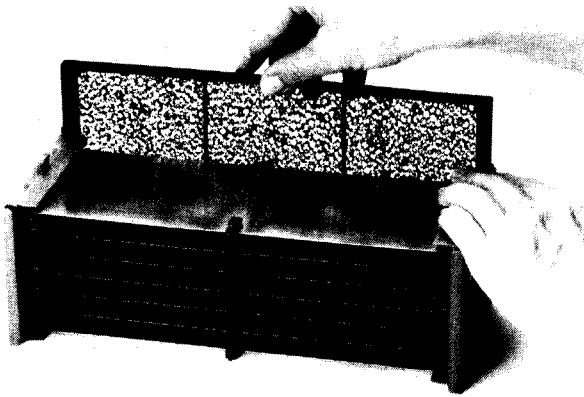

Figure 8
E. Slide charcoal filter upward from back of cell (Figure 8).